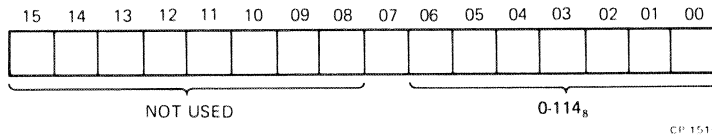

Figure 4-18 RXTA Format (RX11/RXV11)
4.2.2.3 RXTA – RX Track Address (Figure 4-18) – This register is loaded to indicate on which of the 77 (114₈) tracks a given function is to operate. It can be addressed only under the protocol of the function in progress (Paragraph 4.2.3). Bits 8–15 are unused and are ignored by the control.